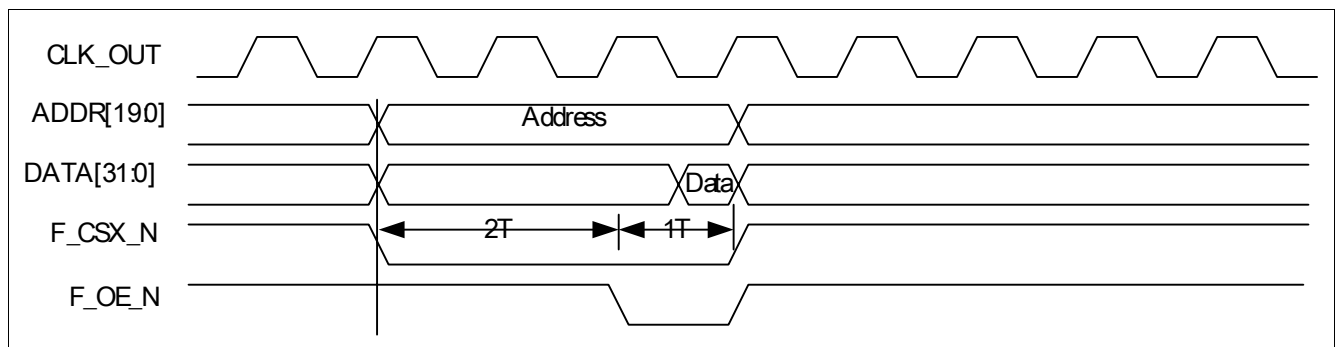

Figure 6 Read with Two Clock Delay for Read Enable
- The delay between the assertion of the chip select and the output enable is programmable from 0 to 15 cycles using the WAITOEN bits of the **MPMC Static Wait Oen 0** registers. The output enable is always deasserted at the same time as the chip select, at the end of the transfer. The **Figure 6** shows that the WAITOEN is set to 2 in the **MPMC Static Wait Oen 0** registers.